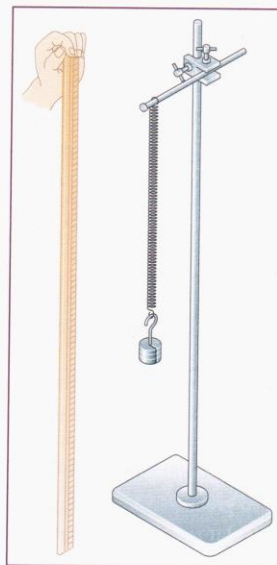

Figure 5.4 Investigating the stretching of a spring.
Figure 5.4 shows how to carry out an investigation on stretching a spring. The spring is hung from a rigid clamp, so that its top end is fixed. Weights are hung on the end of the spring – these are referred to as the **load**. As the load is increased, the spring stretches and its length increases.
- 3 Position a ruler next to the spring so that you can measure the complete length of the spring, as shown in Figure 5.4.